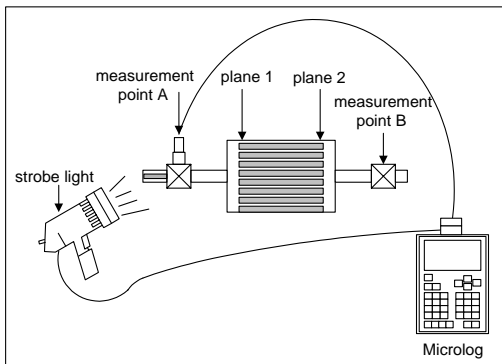

Figure 2: Setting up equipment for dual plane balancing
1. Set up the balancing equipment. (See Figure 2.)